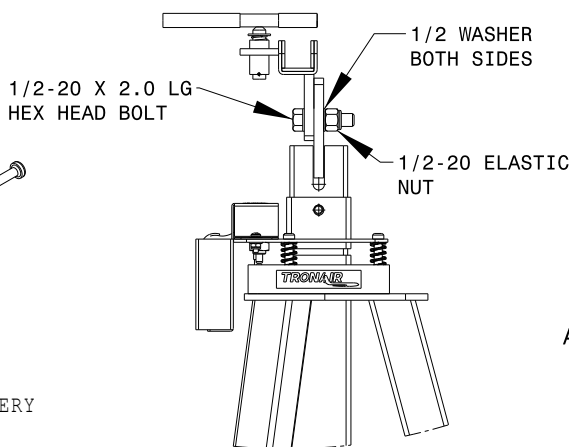

FIGURE 3
2. Fasten cradle assembly to extension tube with one (1) 1/2 - 20 x 2 inch hex head bolt, two (2) 1/2 inch flatwashers, and 1/2 - 20 elastic stopnut. **Reference Figure 3.**